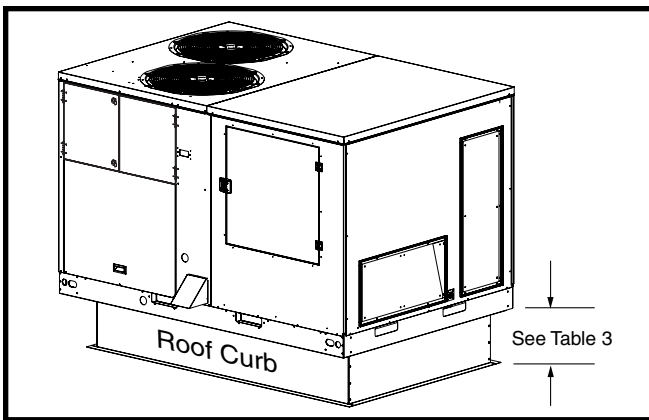

Figure 6. Roof Curb
- The appropriate accessory roof curb Figure 6 \(page 9\) must be installed prior to unit installation. See available roof curb height offering in the Technical Sales Literature. The roof curb must be square and level to ensure proper condensate drainage. **Please follow all instructions provided with the kit.**